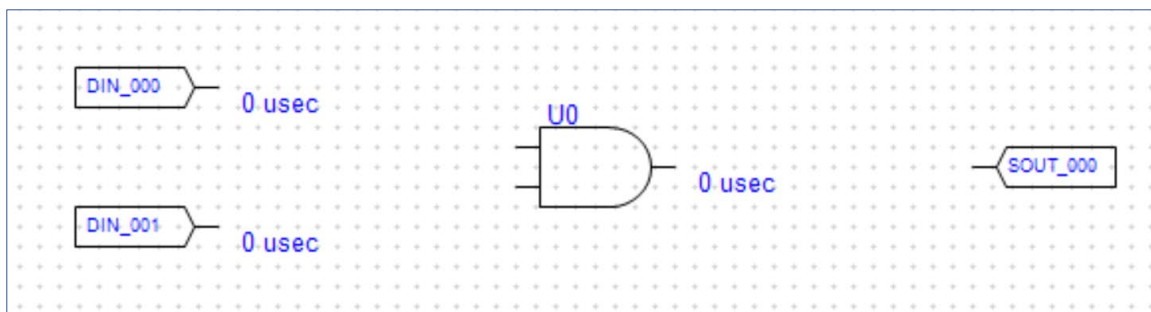

Figure 30 -Blocks Placed & Arranged
- 1) Place and arrange the required blocks as shown in Figure 30 -Blocks Placed & Arranged. Sections 5.1-5.3 provide further detail on placing, selecting, and moving blocks.